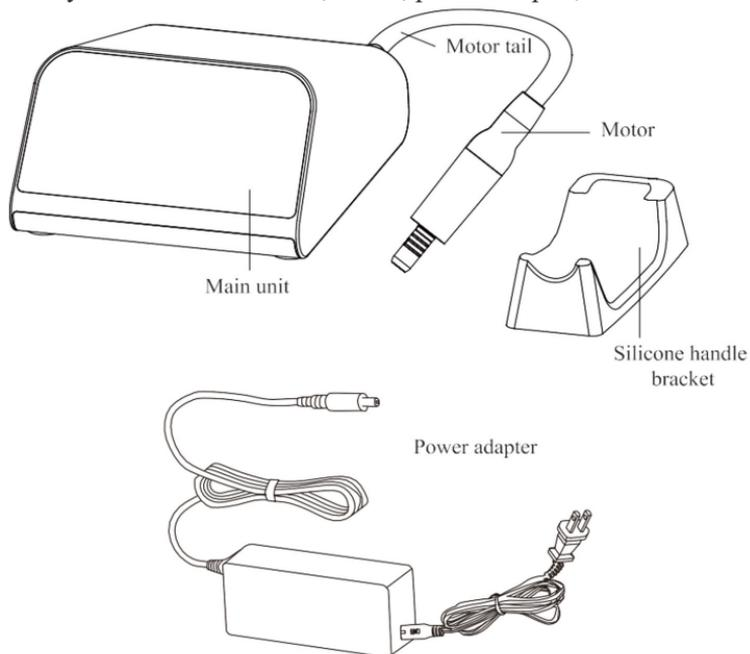

Figure 1
5.2 Turn on the power switch on the main unit, the screen will display and enter the main control interface (Figure 1).